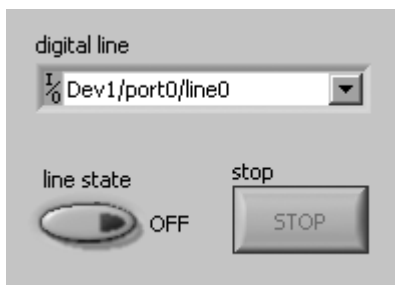

Figure 11.48
1. Build the front panel shown in Figure 11.48.